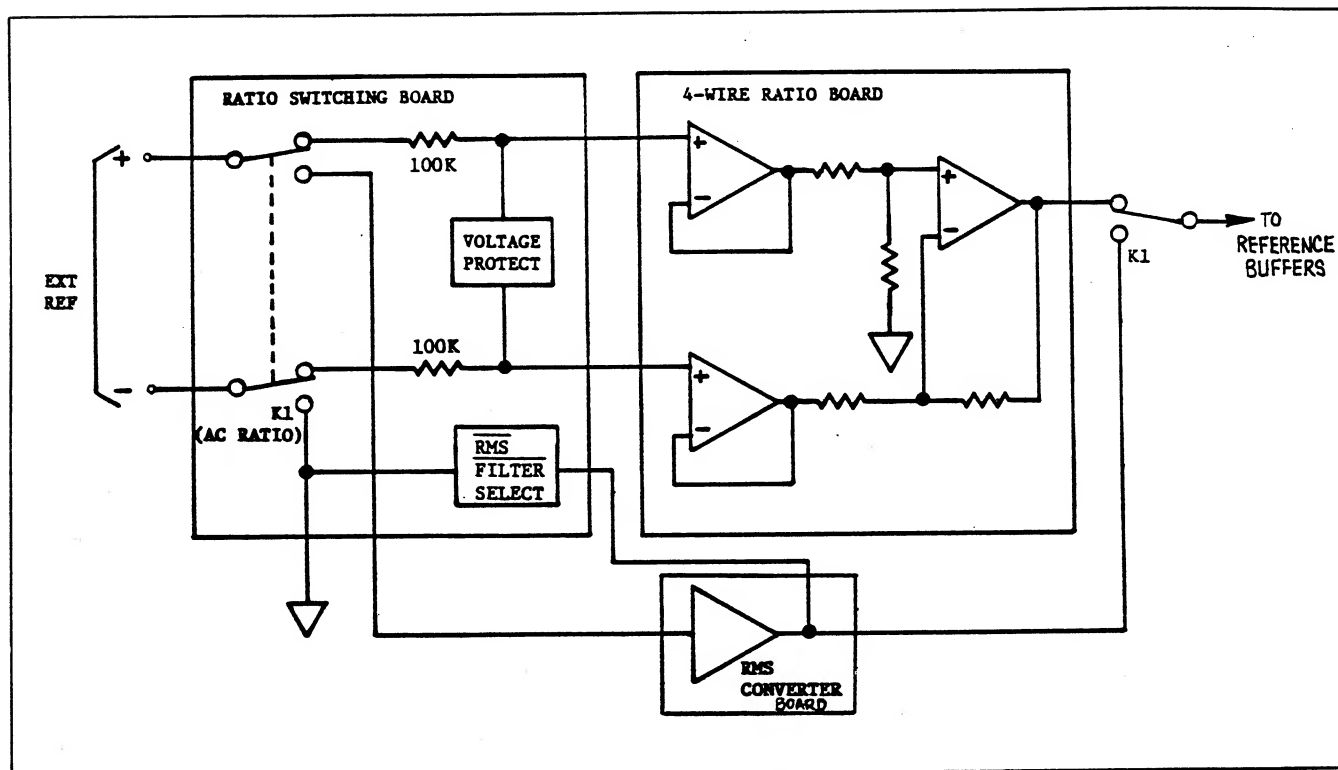

Figure 5.24 - AC/DC Hardware Ratio
5.3.5.11.1 The Hardware Ratio circuitry (Figure 5.24) consists of the Ratio Switching Board, 4-Wire Ratio Board (Option 34) and RMS Converter Board (Option 11).